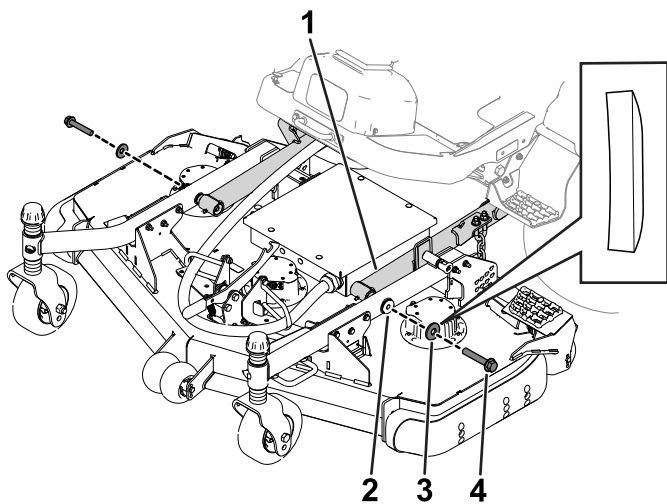

Figure 19
4. Remove the bolts and washers that secure the lift arms to the castor arms (Figure 19).